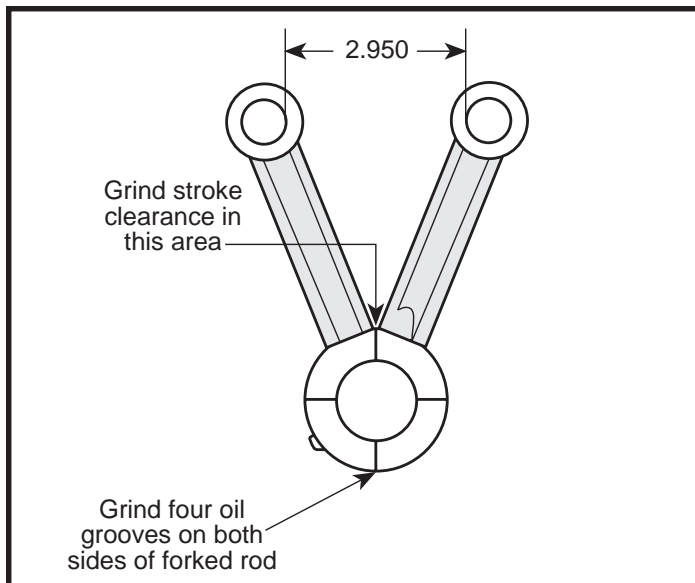

Figure 1
recommends that four grooves be ground on each side of both front and rear connecting rods. **See Figure 1.** Make these grooves .020" to .030" deep and .030" to .040" wide and should be ground 90° from each other. After making grooves, remove all sharp edges and burrs with emery cloth.
- With rods assembled on crankpin and bearings, measure distance between rods at closest points in wristpin holes. If measurement as shown in **Figure 1** exceeds 2.950" for rods with .792" wrist pins or 2.850" for rods with .892" wrist pins, grind female rod at points where male rod makes contact to achieve sufficient clearance.